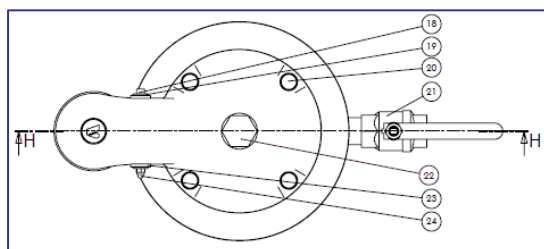

Fig. 1
2. Open the pressure relief valve (21) and make sure internal pressure is released.
3. Open and remove all four bolts (20) on the top cover of the air valve.
6. Insert the float and cover assembly into the valve body in the correct direction (see fig. 1) and tighten the bolts (20).
**NOTE: Make sure that the O-ring (4) is properly seated in its groove on the valve body (4).**
7. Close the pressure relief valve (21) and re-open the isolating valve.